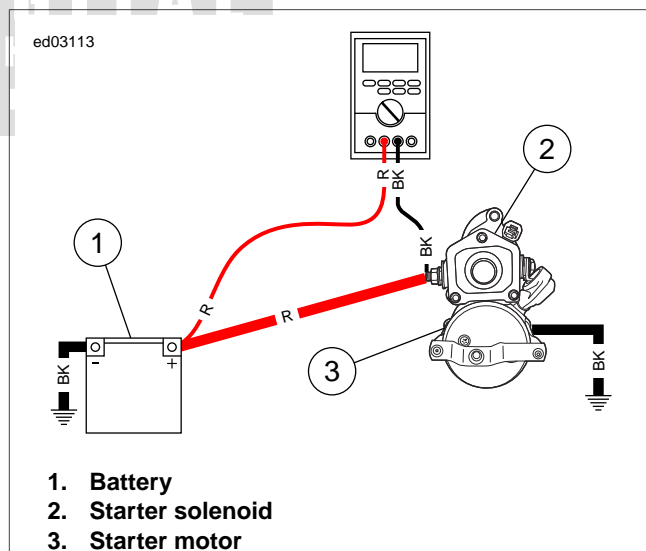

Figure 1-29. To Starter Solenoid Battery Terminal
3. See Figure 1-29. Move the black meter lead to the battery side post on the starter solenoid. Crank the starter.